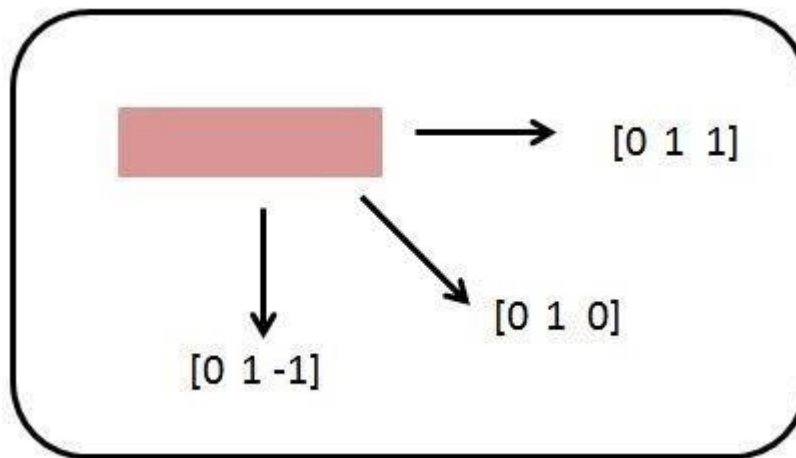

Figure 1: Reciprocal lattice
- Gates must be oriented along the $[0\ 1\ 1]$ reciprocal lattice as shown in the figure 1 below.
- Where a gradually curved bend is not possible, the transmission line can undergo a right-angle bend, see figure 1. However, this must be compensated to reduce the impedance discontinuity caused by the local increase in effective line width going through the bend. A standard compensation method is the angled miter, as shown below. The optimum microstrip right-angle miter is given by the formula: